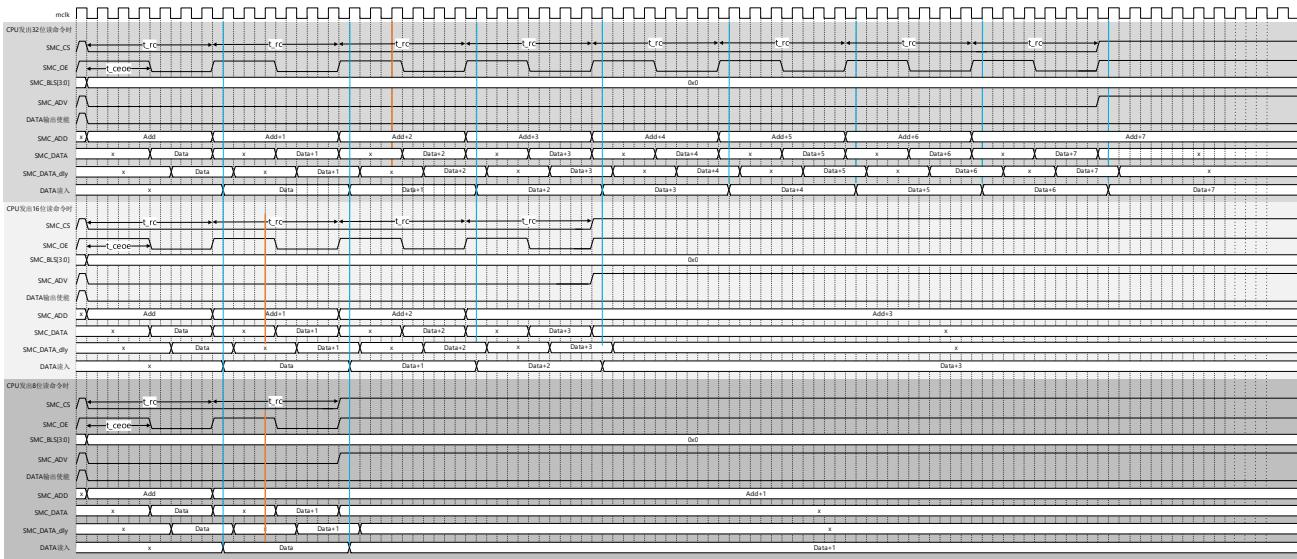
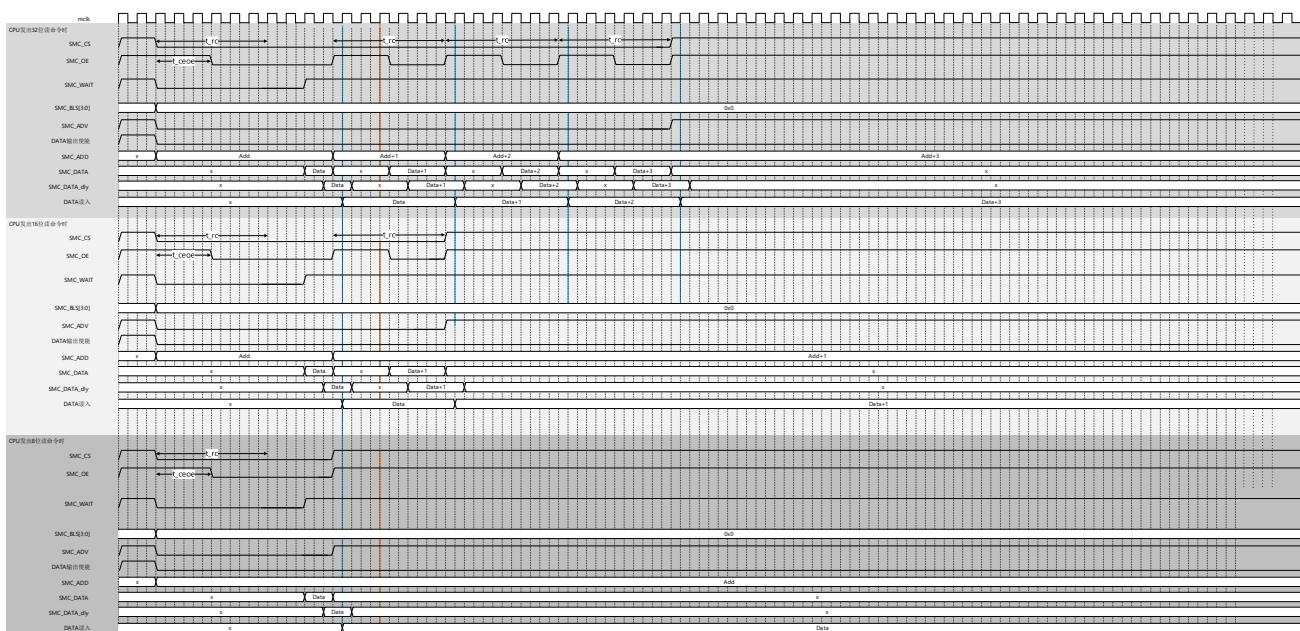

Figure 40-8 Basic timing of single read operation (asynchronous mode (RSYN=0) & 16-bit width (MW=01))
Figure 40-11 Basic timing sequence of single read operation (synchronous mode (RSYN=1) & 32-bit width (MW=10))
- a) Table 40-7 and Figure 40-8 ~ Figure 40-11 This is the basic timing chart and setting example of a single read operation.